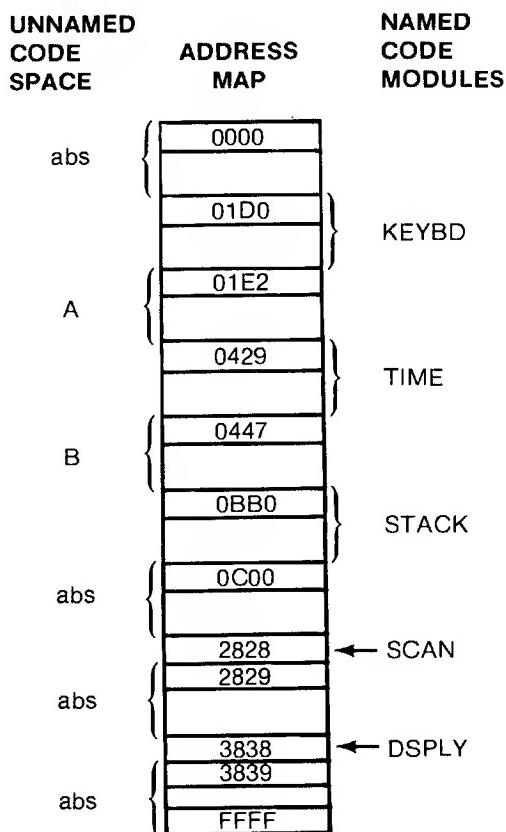

Figure 3-17. Address Map For Relocation Example
This procedure will demonstrate how the analyzer shows code modules in address values of the original object code. The example in figure 3-17 is for this purpose. It will not actually fit the system you are using for your test source, but it will serve for this demonstration. The code space in figure 3-17 is selected to ensure that you will see names from the [Relocation] menu on your display.
8. Use the CURSOR-down-arrow to place the cursor in the abs 0000 field. The code starting at this address is not named in the example listing of figure 3-17. This code can be shown in absolute values.